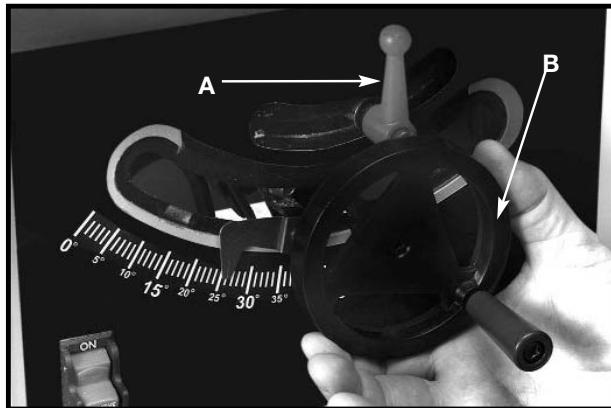
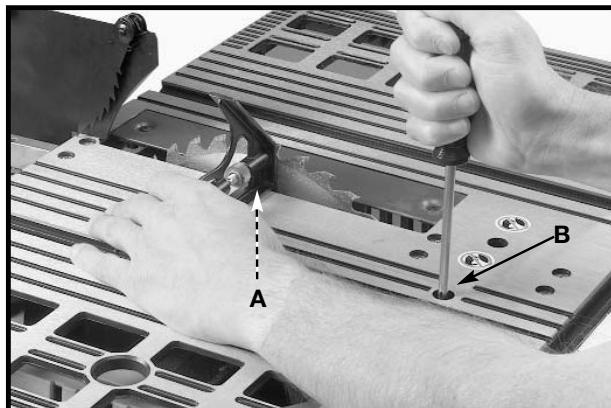
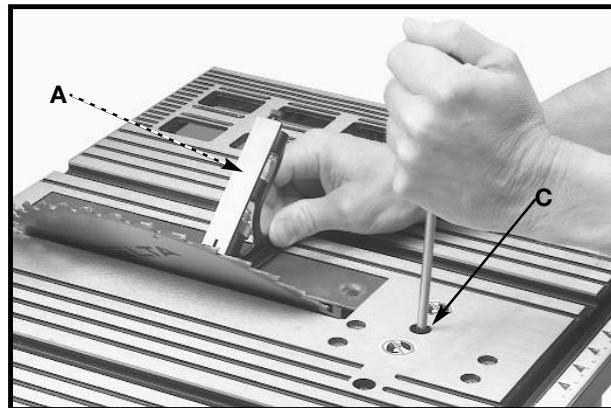

Fig. 32
Fig. 33
Fig. 34
To tilt the saw blade, loosen the lock handle (A) Fig. 32 and move the handwheel (B) until the blade is at the desired angle. Tighten the lock handle (A).
**NOTE:** The lock handle (A) is spring-loaded. Pull out on the handle (A) and reposition it on the serrated stud located underneath the handle.
**WARNING** THE BLADE TILTING LOCK HANDLE (A) MUST BE LOCKED DURING ALL CUTTING OPERATIONS.
2. Loosen the blade tilting lock handle (A) Fig. 32, move the blade tilting mechanism (B) as far as possible to the left, and tighten the blade tilting lock handle (A).
3. Place a square (A) Fig. 33 on the table with one end of the square against the blade, and check to see if the blade is 90 degrees to the table. If not, loosen the screw (B) Fig. 33 a few turns and move the blade tilting mechanism until the blade is 90 degrees to the table. Tighten the blade tilting lock handle (A) Fig. 32, and tighten the screw (B) Fig. 33 until it stops.
2. Loosen the blade tilting lock handle (A) Fig. 32, move the blade tilting mechanism (B) as far as possible to the right, and tighten the blade tilting lock handle (A).
3. Place a square (A) Fig. 34 on the table with one end of the square against the blade, and see if the blade is 45 degrees to the table. If not, loosen the screw (C) Fig. 34 a few turns and move the blade tilting mechanism (B) Fig. 32, until the blade is 45 degrees to the table. Tighten the blade tilting lock handle (A) Fig. 32, and tighten the screw (C) Fig. 34 until it stops.